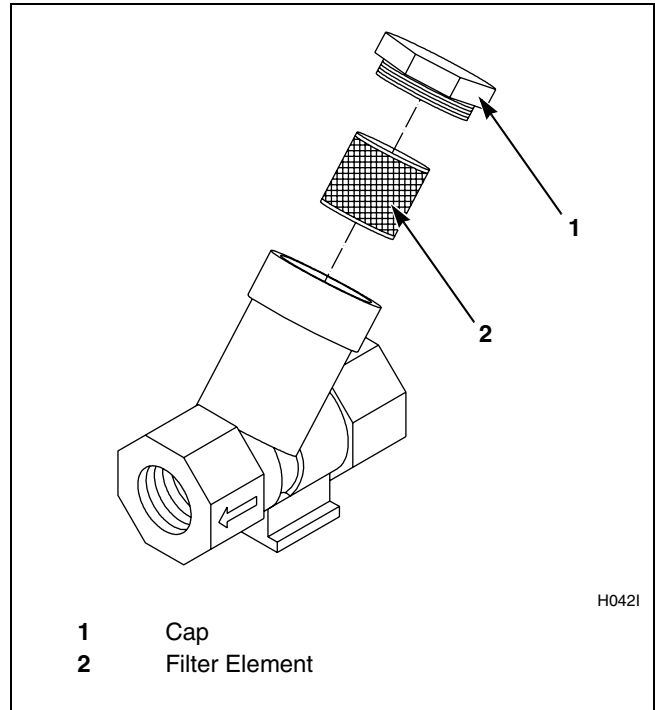

Figure 19
6. Clean customer-supplied steam filter, where applicable. Refer to *Figure 19*.